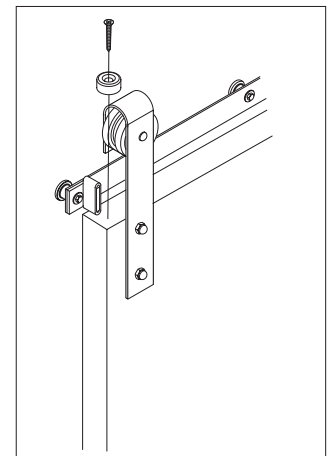

Figure 10
20. Place the Anti-Jump block on the top of the door (Figure 10). Using a drill with a phillips bit, install the block with the 1" phillips screw (provided).*